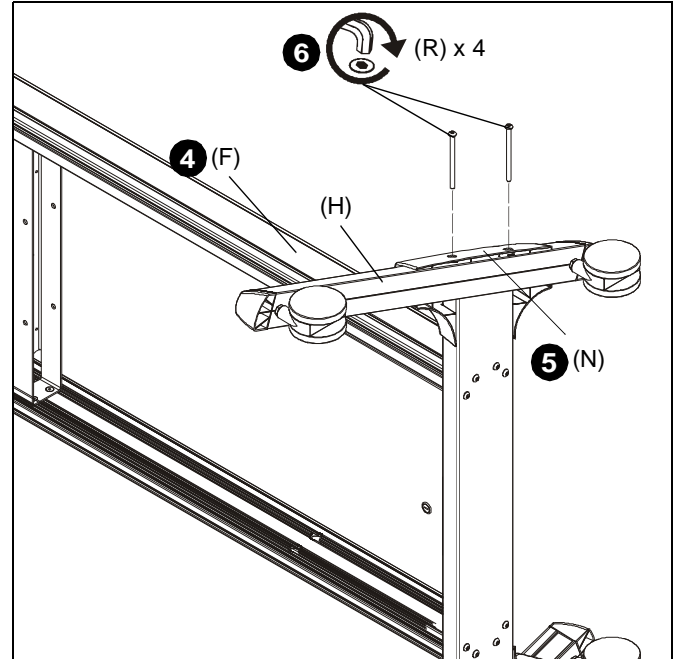

Figure 2
4. Turn column assembly (F) onto its right side. (See Figure 2)
5. Place left transition cover (N) on left cart leg (H), lining up the holes on the cover with the holes on the leg and column assembly base. (See Figure 2)
6. Use two 5/16-18 x 3 3/4" button head cap screws (R) to secure leg (H) and cover (N) to column assembly (F). (See Figure 2)